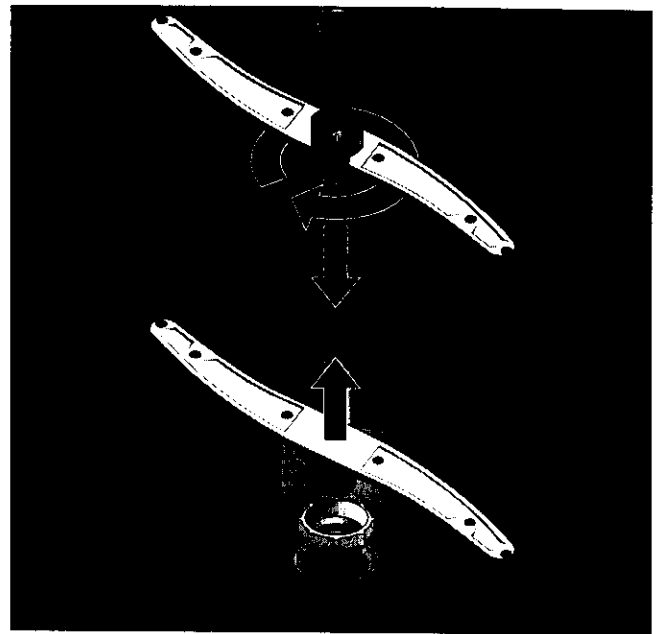

Figure 15.
- > The upper wash arm is held in position by a locking ring that can be released by turning it approximately  $\frac{1}{8}$  turn. See figure 15.